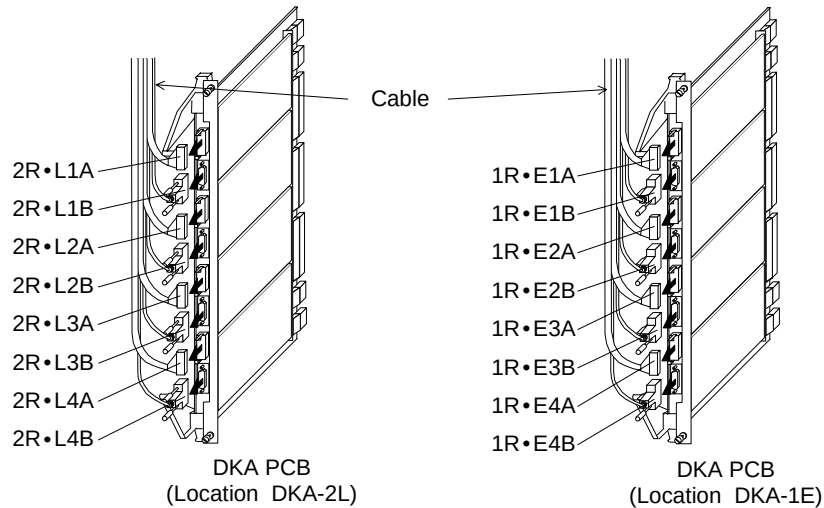

Fig.4.1.3-4 Disconnection of DEV Interface Cable (Add.3)
- a. Remove the two screws and remove the PCBs from the correct locations in the Rear Logic Box referring to Fig. 4.1.3-5.